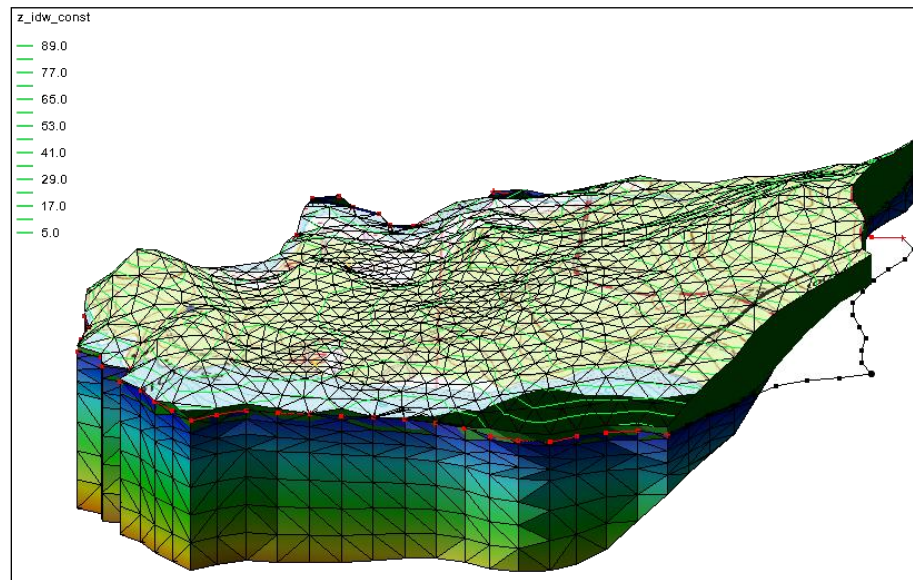

Figure 13 TIFF image draped and the 3D mesh rotated
8. Use the **Rotate**  tool to click and drag horizontally to the left side of the screen until the other side of the model is visible (Figure 13).